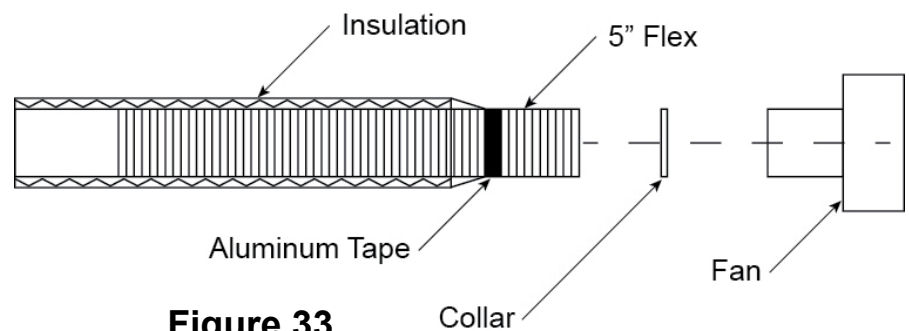

Figure 33
3. Attach the flexible pipe to the fan's air inlet using the collars provided (figure 33);